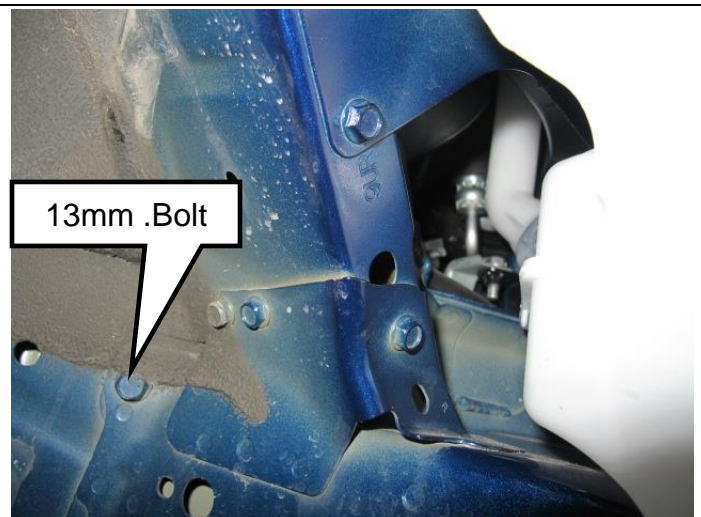

Figure 14
13. Torque 13mm RH front member auxiliary bolt (Figure 14).